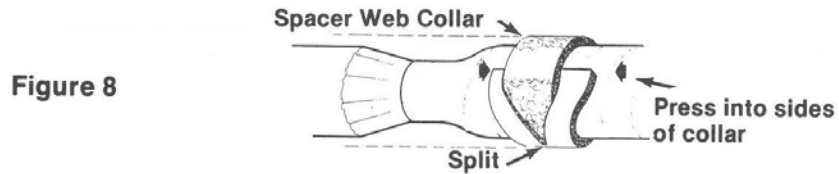

Figure 8
6.3 Split ends of spacer web and press into sides of collars. (Figure 8)